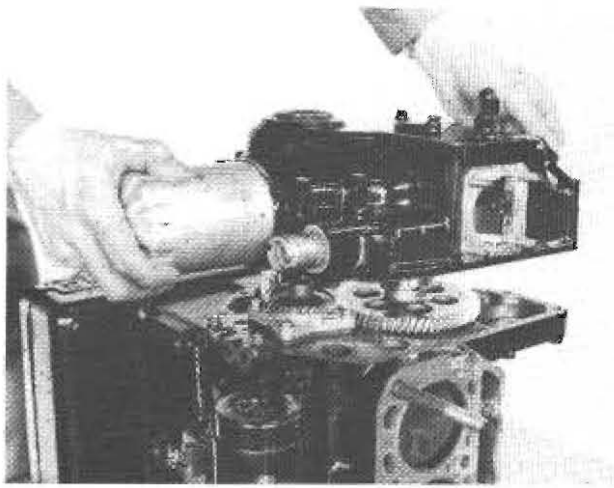

Fig. 2-4 Remove Gear Housing Assembly
16. Remove gear housing assembly (Fig. 2-4).